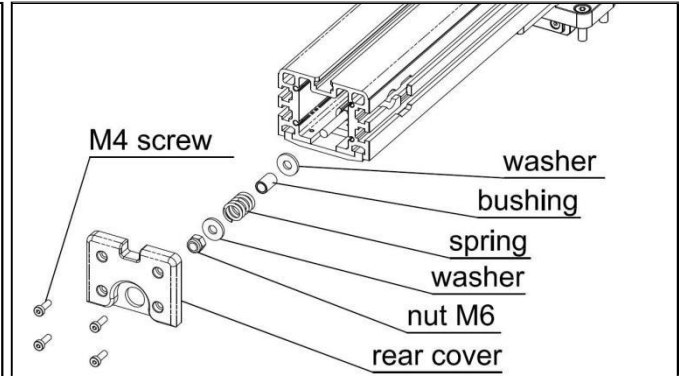

Fig. 14-4
3. As shown in Fig. 14-4, remove the rear cover and the spring.